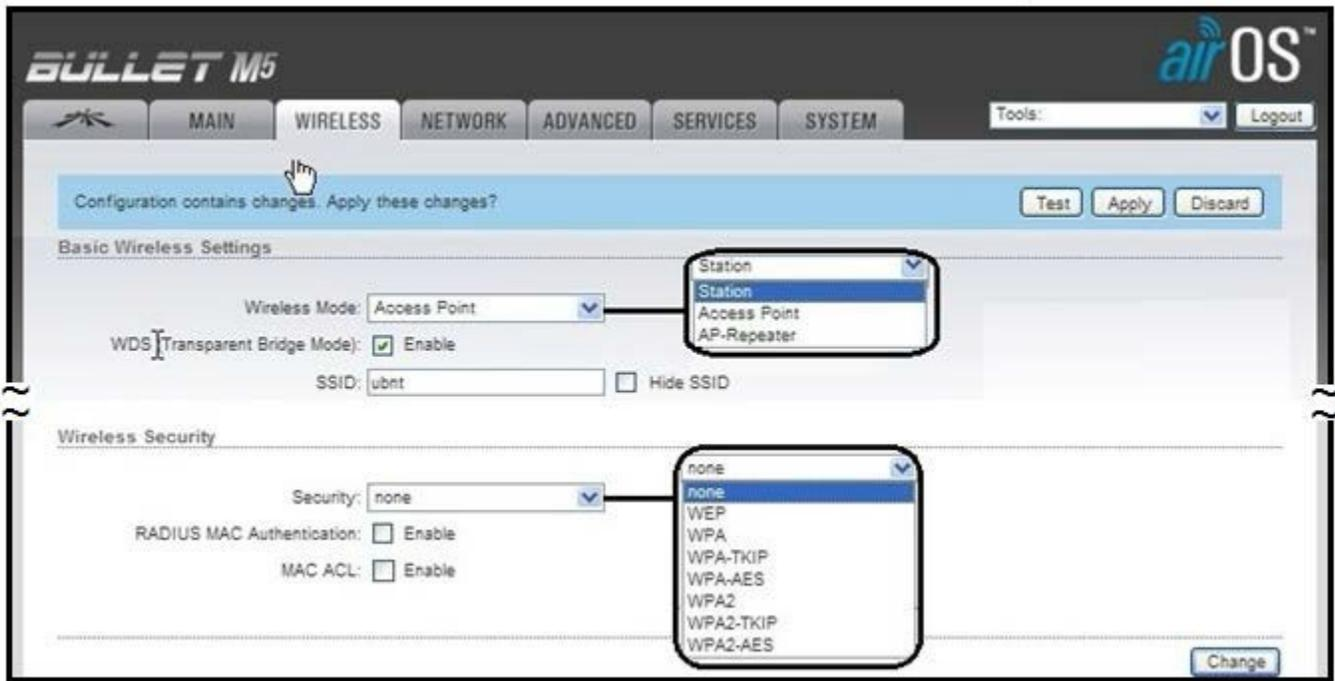

Figure 7 Wireless Setup and Change Prompt
8. Select **WIRELESS** tab (See Figure 7).